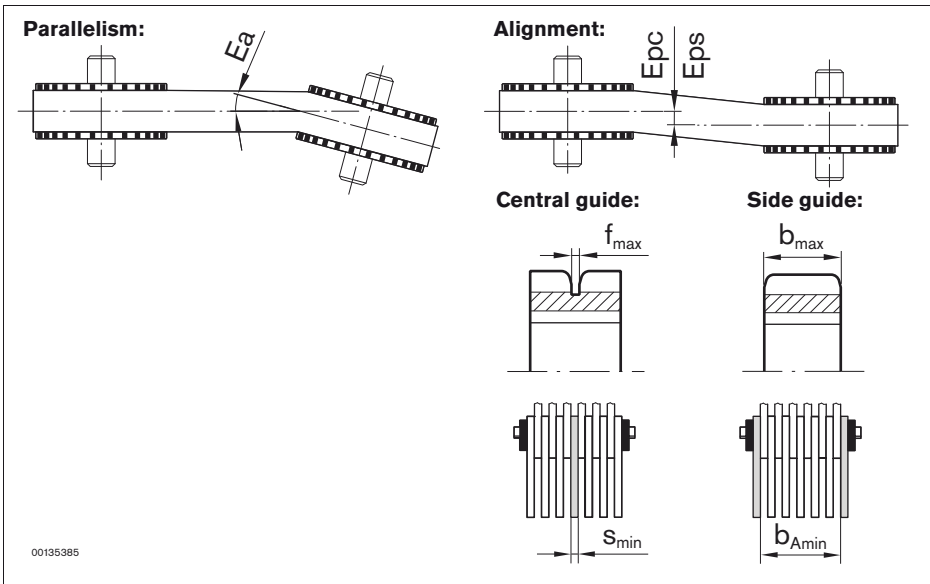

Fig. 8: Correct assembly of sprockets
- The sprockets must be parallel to each other (see Fig. 8).
- The sprockets must be aligned correctly (see Fig. 8).